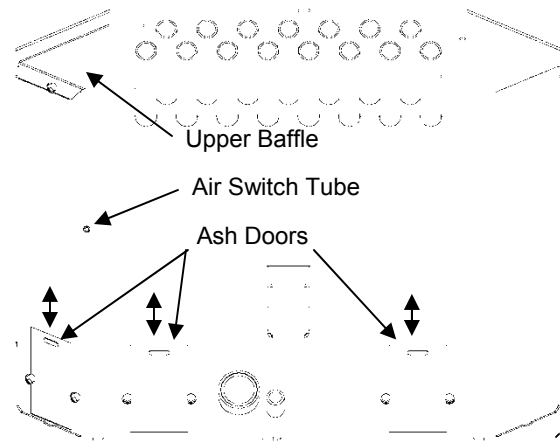

FIGURE 25
- Interior Chambers** – Three ash doors and an upper baffle in the firebox in the P2000 can be removed for periodic cleaning (Figure 25). These doors allow access to the chamber surrounding the firebox.